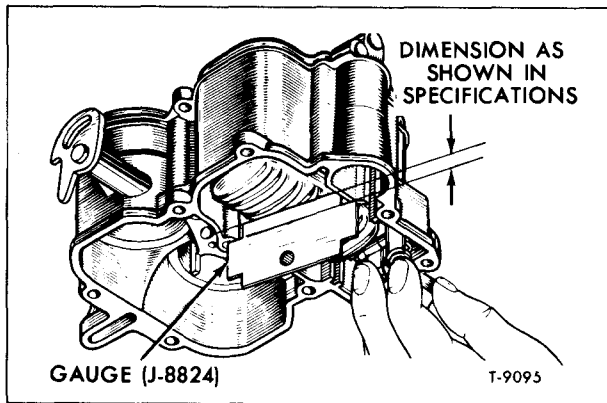

Figure 6—Checking Float Level
4. Hold main body inverted as shown in figure 6. This will allow weight of float to hold needle in the closed position. Use float gauge (J-8824) to check relationship of the float to top of the fuel bowl as shown. Refer to specifications for proper float level adjustment. Setting is correct when the edge of the gauge touches top of the rib on float.